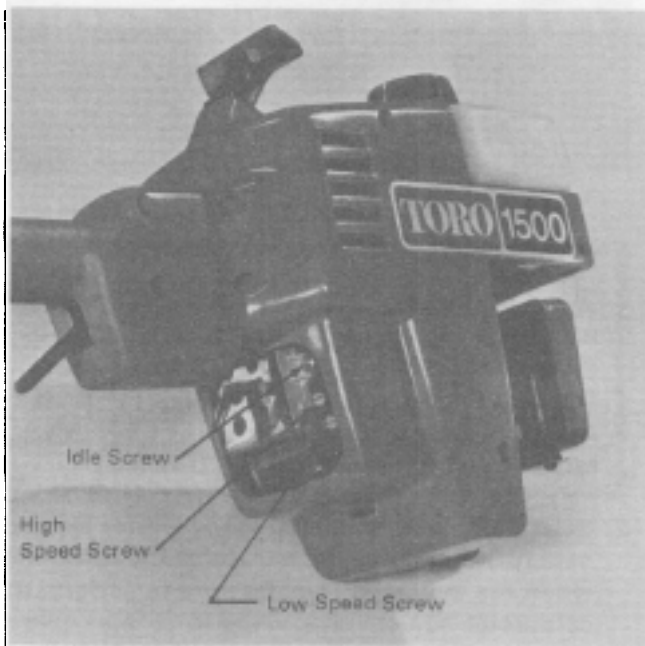

Figure 12
3. **Adjust Idle First:** With engine idling, rotate the Low Speed Screw (L) for the leanest fuel mixture that allows stable idle, and acceleration without hesitation.
4. If necessary, idle speed can be increased by turning the idle stop screw clockwise (Fig. 12).